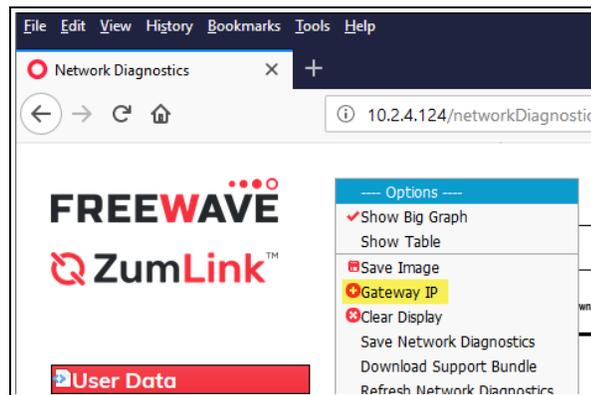

Figure 168: Options list box - Gateway IP option Selected
6. Click the **Options** list box arrow and select the **Gateway IP** option. Figure 168